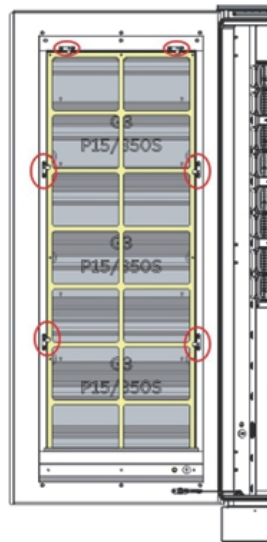

Figure 2
2. Open the left and right rear doors, then twist to release the filter cotton retaining latches on both doors, see Figure 2.